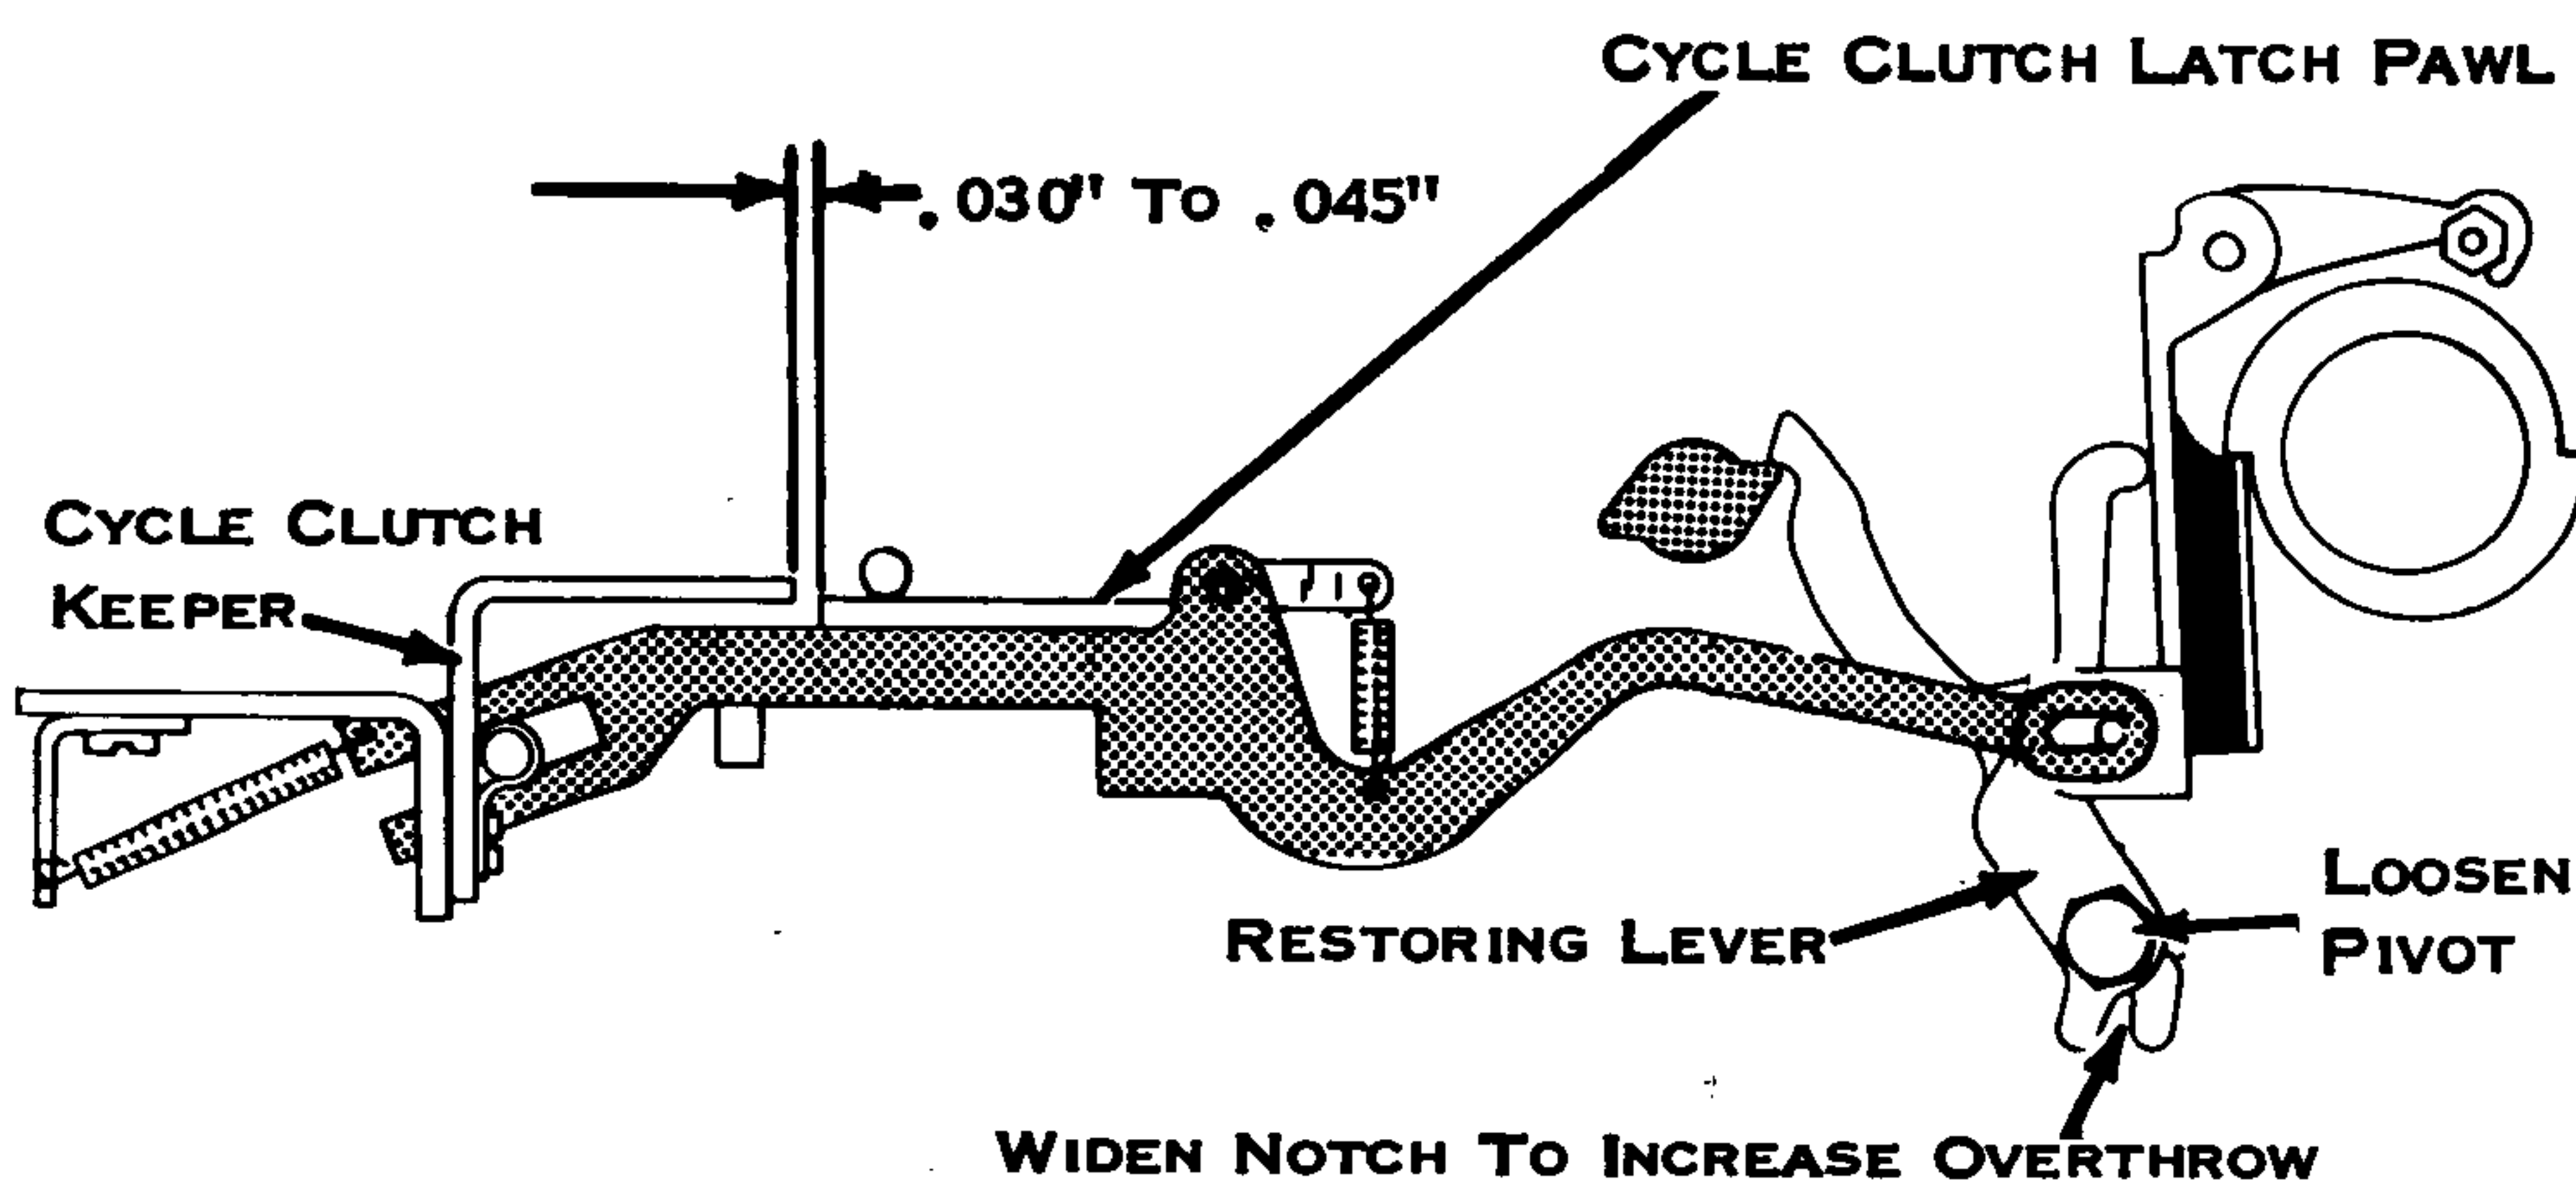

Figure 11. Cycle Clutch Latch Restoring, Old Style
- b. Old Style - Adjust the restoring lever so that the latch pawl overthrows the keeper by  $.030''$  to  $.045''$ . The overthrow must not force the latch against the sleeve (Fig. 11).